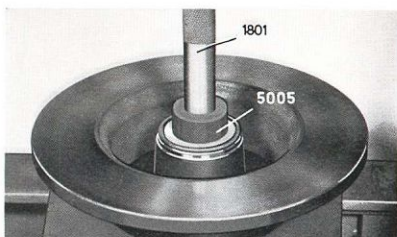

Fig. 6-22. Fitting sealing ring
2. Place the steering knuckle in position and tighten the ball joint nuts. If the ball joint twists, hold it firmly in position with a screw vice (see Fig. 6-22). Fit the steering rod onto the steering arm.